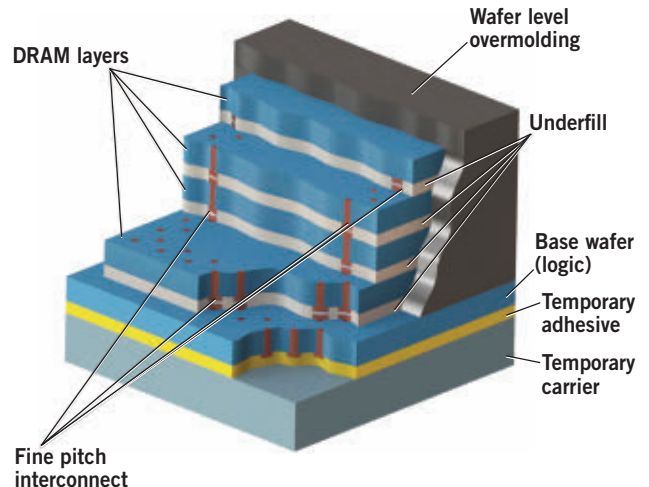

FIGURE 2. Overmolding prior to debonding is a key integration concept.
tioning from very thick to thin films also reduces the duration of the baking steps for curing the films—enabling the design of temporary bonders with more than twice the throughput. **FIGURE 1** shows an exemplary process flow for 2.5D interposers with 3D-IC chips stacked by chip-to-wafer bonding [2]. Another key 3D-integration concept is overmolding prior to debonding, which allows double-side processing on ultra-thin wafers while avoiding thin-wafer handling altogether. As shown in **FIGURE 2**, after chip stacking the entire wafer is overmolded while the thin interposer wafer is still bonded to the carrier wafer. This overmolding compound creates a rigid film on top of the thin interposer wafer.